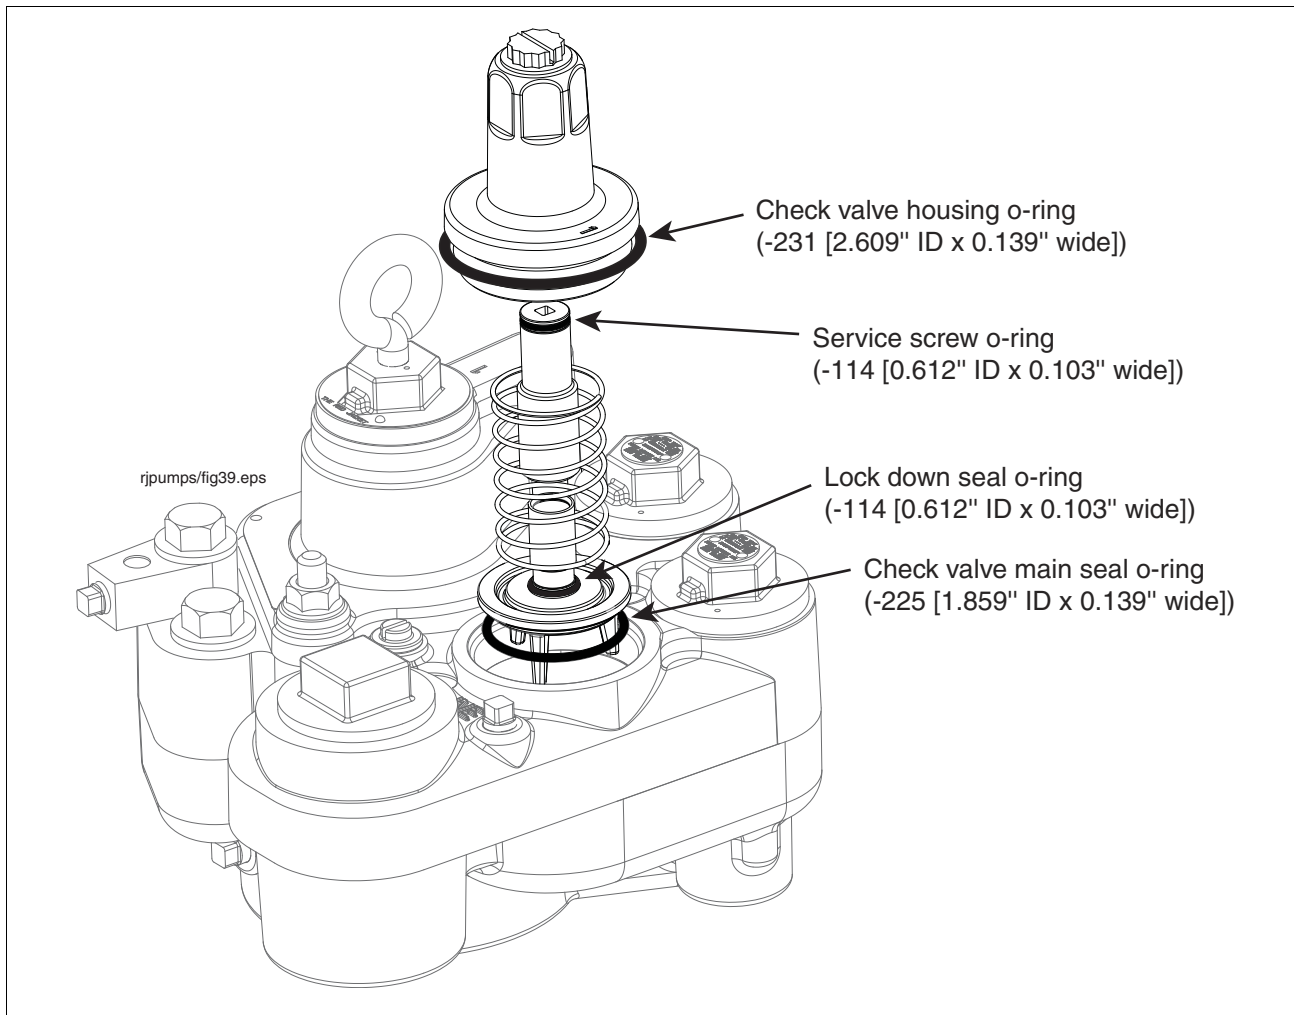

Figure 1. Inserting Check valve assembly into manifold
2. Remove and save the protective plug over the service screw and turn the screw clockwise (see Figure 1). As the screw approaches its bottom position, you will hear the system depressurizing. Continue turning the screw until it can go no further. When the screw is all the way down, backoff the screw 4 turns to lift the check valve and let the fuel drain out of the manifold's hydraulic cavities. Continue to turn the screw counterclockwise until you hear the check valve drop down into position.
6. With its lubricated o-ring in place, insert the check valve onto its seat in the manifold, and place the new spring over the check valve (see Figure 1). Place the check valve housing with o-ring over the spring and check valve and screw it in hand tight. Torque the housing to 40 - 50 ft-lbs (54 - 67 N•m).
8. Open the air purge screw 2 - 3 turns counterclockwise (see Figure 1).